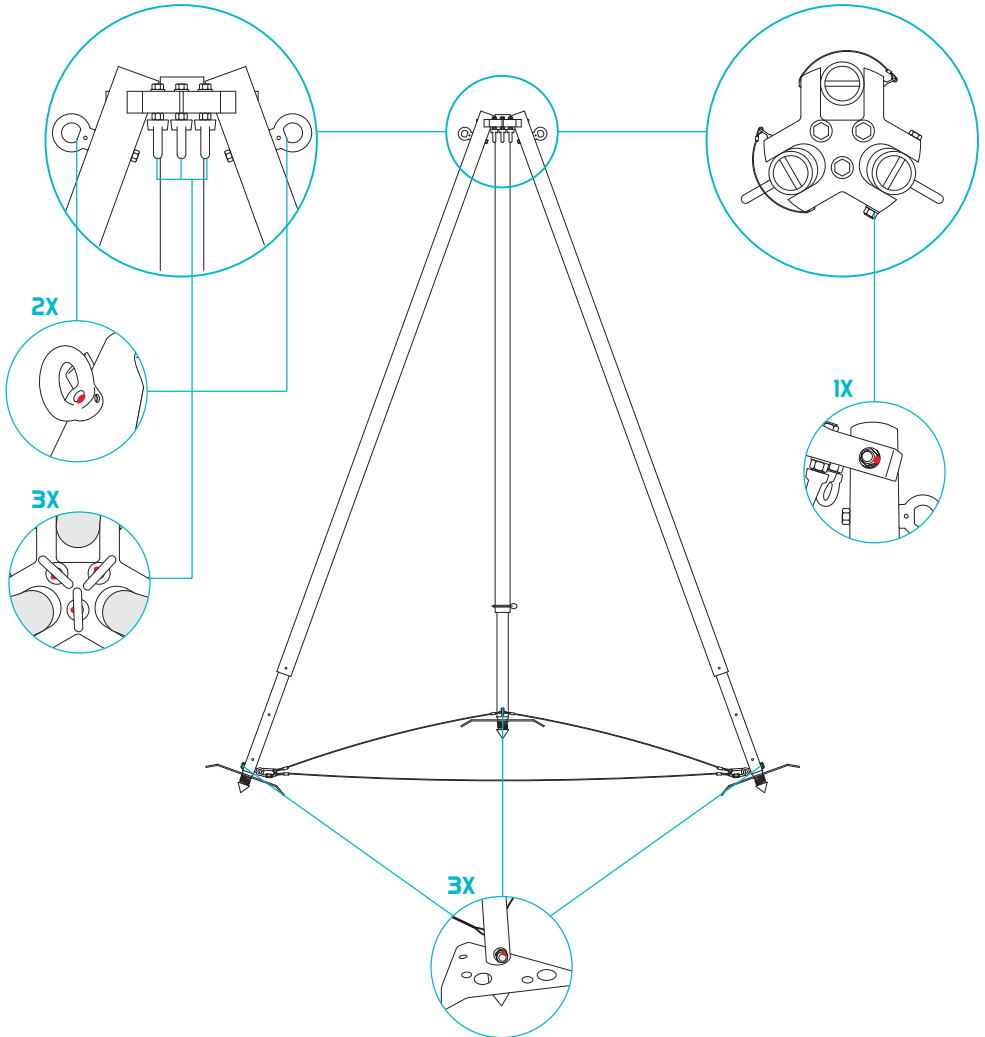

Fig. 2
Red paint has been applied to the points indicated in Figure 2 as a visual indicator of unscrewing/loosening.
- the anchor points at the top (B) and the eye bolts (H) are free to rotate;
- the visual indicators of unscrewing/loosening (red paint) at the points indicated in fig. 2 are not broken;
- the locking pins for leg length adjustment (E) are fully screwed into the respective legs (C);